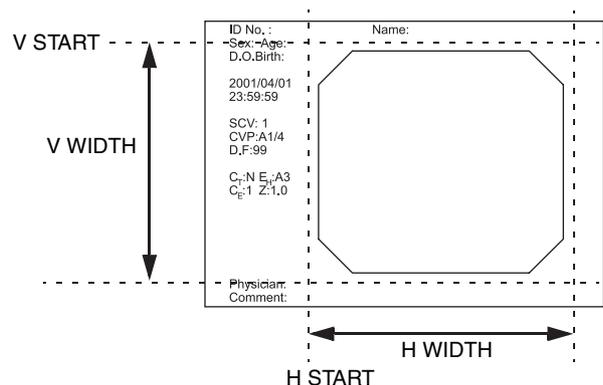

Figure 5.19
This menu is used to set the image capturing range. For the relationship between the images capturing positions and the settings, see Figure 5.19.
- 3 Set the image capturing range by repeating steps 1 and 2 (see Figure 5.19).